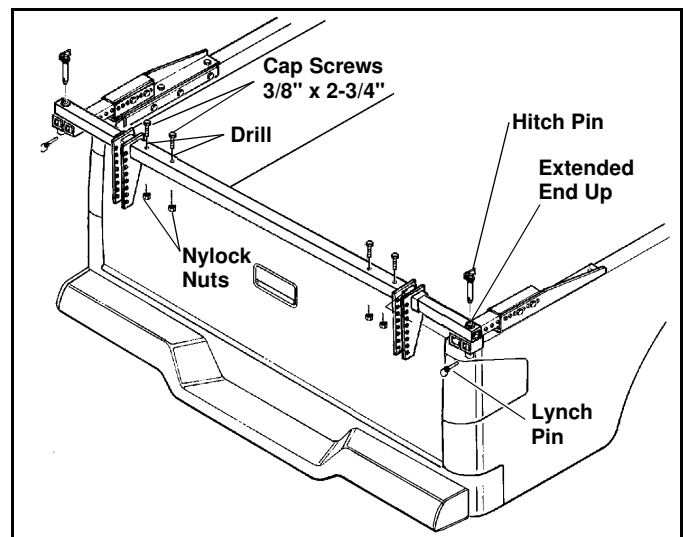

Figure 1-5
2. Place one (1) Upper Attaching Bar (#96101801) into each end of Front Center Tube (#96101909). Place the assembled unit on top of the two adjustment bars previously installed on the truck bed side rails and install a Hitch Pin (#96101794) through the two ends. Be sure that extended end of the round tube in the attaching bars are to the top. Be sure the mounting plates of the center tube are facing away from the truck bed and extended downward from the tube. (See Figure 1-5)
4. Center the Front Center Tube Assembly with the vehicle (side to side) and using the holes in the Front Center Tube Assembly as templates, drill 13/32" holes through the Adjustment Bars. Secure each bar with two (2) 3/8" x 2-3/4" Cap Screws and Nylock Nuts provided. (See Figure 1-5)